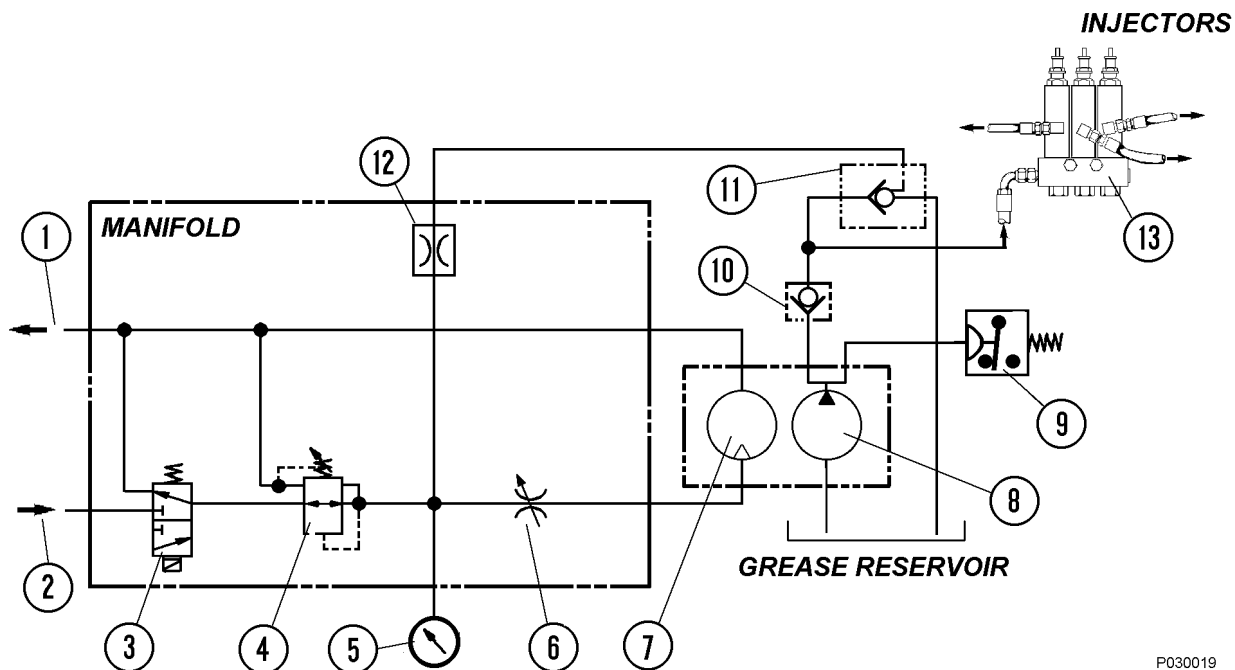
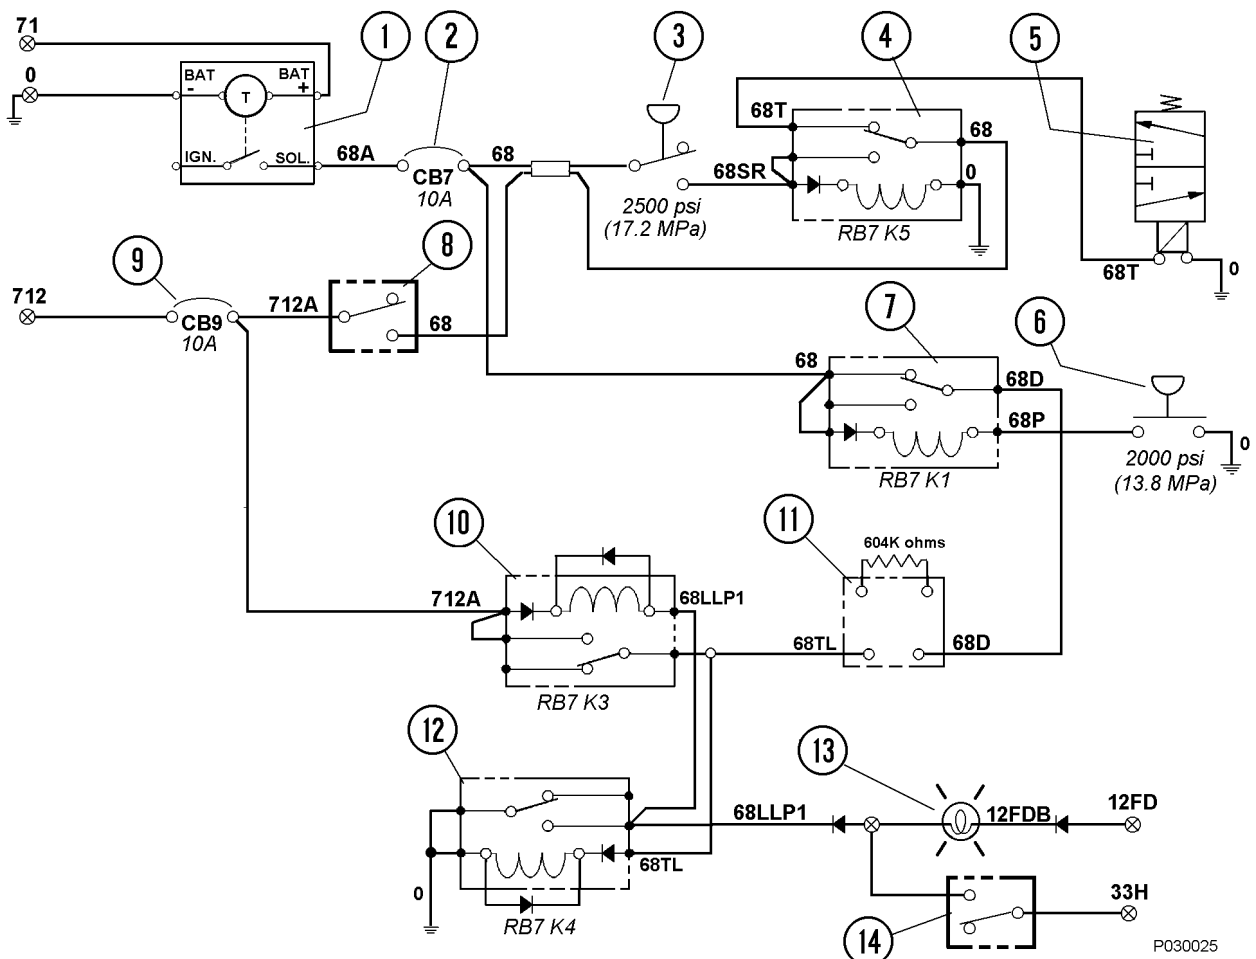

FIGURE 4-5. HYDRAULIC SCHEMATIC
FIGURE 4-6. ELECTRICAL SCHEMATIC
Lubrication Cycle Timer (1, Figure 4-6)
Delay Timer (11, Figure 4-6)
1. During truck operation, the lubrication cycle timer (1, Figure 4-6) will energize the system at a preset time interval.
2. The timer provides 24 VDC through the normally closed relay, RB7K5 (4) used to energize the pump solenoid valve (5), allowing hydraulic oil provided by the truck steering pump circuit to flow to the pump motor and initiate a pumping cycle.
3. The hydraulic oil pressure from the steering circuit is reduced to 325 to 350 psi (2 240 to 2 413 kPa) by the pressure reducing valve (4, Figure 4-5) before entering the motor. In addition, the amount of oil supplied to the pump is limited by the flow control valve (6). Pump pressure can be read using the gauge (5) mounted on the manifold.
4. With oil flowing into the hydraulic motor, the grease pump will operate, pumping grease from the reservoir to the injectors (13), through a check valve (10) and to the vent valve (11).
6. When grease pressure reaches the pressure switch (3, Figure 4-6) setting, the switch contacts will close and energize the relay RB7K5, removing power from the hydraulic motor/pump solenoid and the the pump will stop. The relay will remain energized until grease pressure drops and the pressure switch opens again or until the timer turns off.
1. When the lubrication cycle is initiated, 24VDC flows through relay RB7K1 (7, Figure 4-6) N.C. contacts to a 1 minute delay timer (11).
2. If the system is operating normally, grease pressure at the rear axle injector bank will rise to pressure switch (6) setting of 2000 psi (13.8 MPa) and energize relay RB7K1 (7), removing 24VDC from the delay timer.
3. If a problem occurs and the system is not able to attain 2000 psi (13.8 MPa), the delay timer (11) will energize relay RB7K4 (12) after 60 seconds, turning on the "Low Lube System Pressure" warning lamp on the overhead display. After RB7K4 relay energizes, it will energize relay RB7K3 (10).